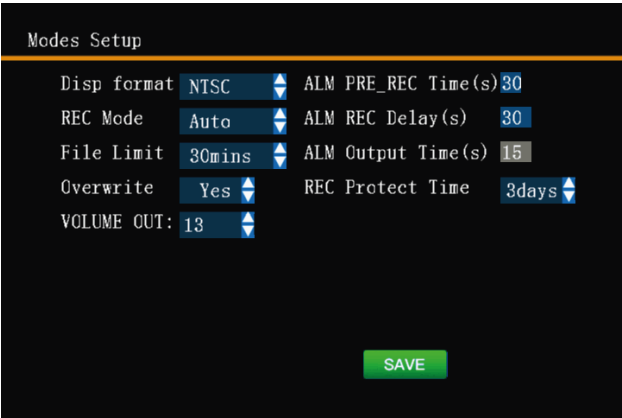

Figure 3-13
3.4-1 Normal Setup (Figure 3-13)